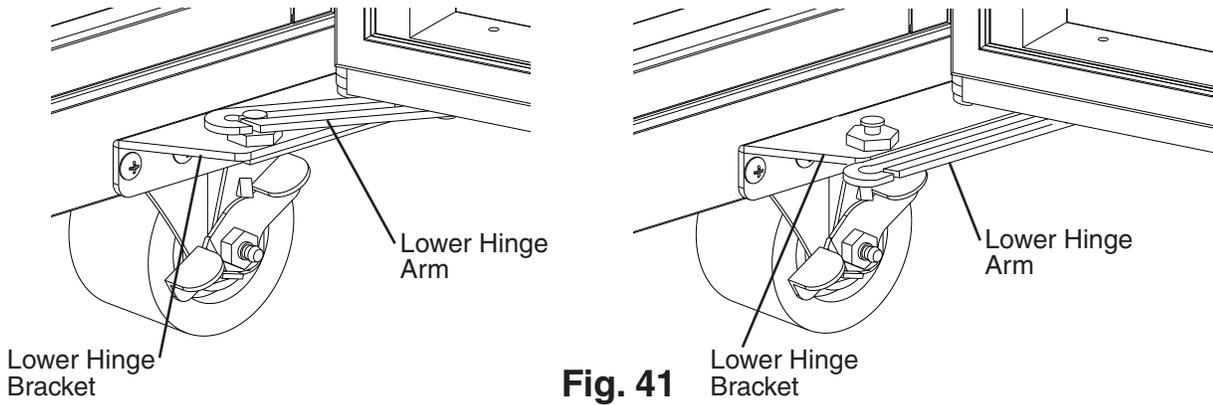

Fig. 41
7) Open the door. Using a flat head screwdriver, unhinge the lower hinge arm from the lower hinge bracket. See Fig. 41.